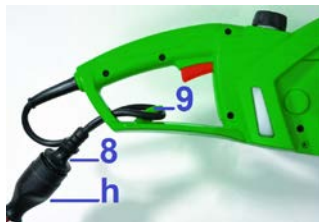

Fig.9
- ① Check the oil level prior to each use of the chainsaw and, if required, refill with saw chain oil.
- ① Before starting the chainsaw, ensure to loosen the chain brake, by pulling the front hand guard (3) towards the front handle.
1- Connect power cable (8) to an extension cord (h) (not supplied) (Fig.9).
2- Attach the extension cord to the cable holder (9) to prevent any damage from inadvertent excessive force pulling (see Fig.9).